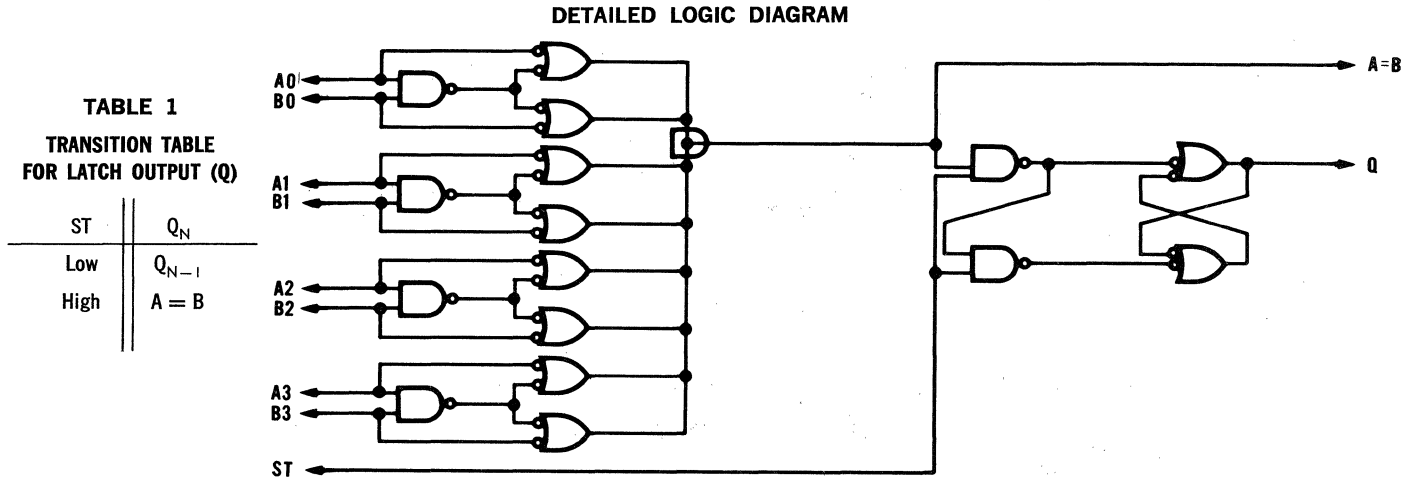

Fig. 2
**ASYNCHRONOUS** — Fig. 2 shows the detailed logic representation of the comparator and latch (½ 4510). Whenever the 4-bit data word on lines A is identical to the 4-bit data word on lines B the A=B output is high. If data word A is not equal to data word B the A=B output is low.
**SYNCHRONOUS** — The strobe (ST) and the latch output (Q) provide storage capability of the A=B output. This function is shown in Table 1. When ST is high,  $Q_N$  equals the A=B output. When ST is low,  $Q_N = Q_{N-1}$ .